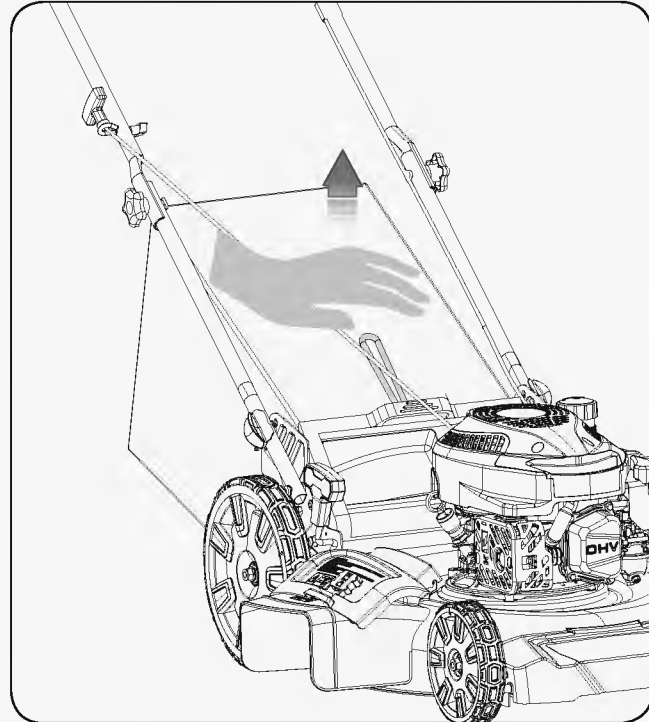

Figure 13
1. Lift the grass catcher with the frame handle. (See **Figure 13**)